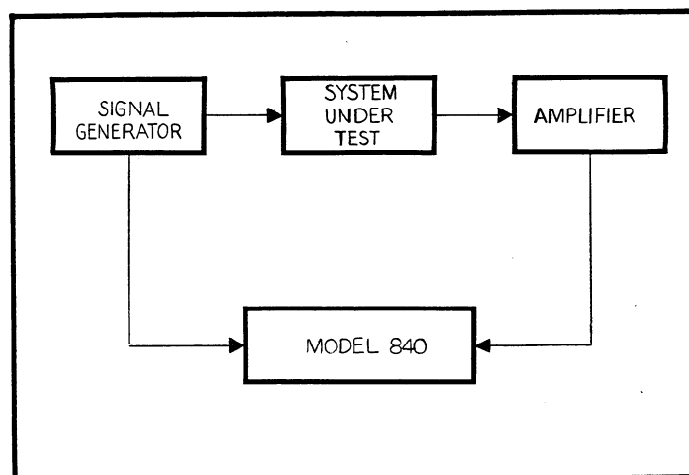

FIGURE 17. Phase Sensitive Detection.
3-1. GENERAL. The Model 840 can be used in applications which provide a reference signal from an oscillator chopper, or mechanical switch. The test signal derived from the reference may be amplified before the signal is applied to the Model 840 as shown in Figure 17.
a. System 84. The Keithley System 84 is composed of the Model 103A Nanovolt Amplifier and the Model 840 as shown in Figure 17. The power for the Model 103A is provided by the Model 840 through the auxiliary power receptacle and Model 1083 cable. The System 84 can be used for a wide variety of applications requiring low noise, wideband amplification.